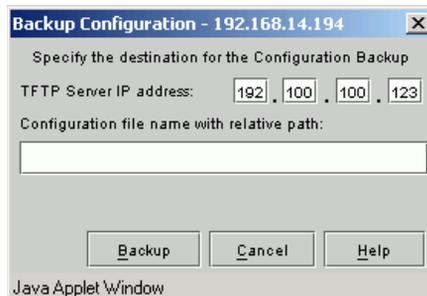

Figure 7-4 Backup Configuration Dialog Box
1. Choose *File>Configuration>Backup* to display the *Backup Configuration* dialog box (Figure 7-4).